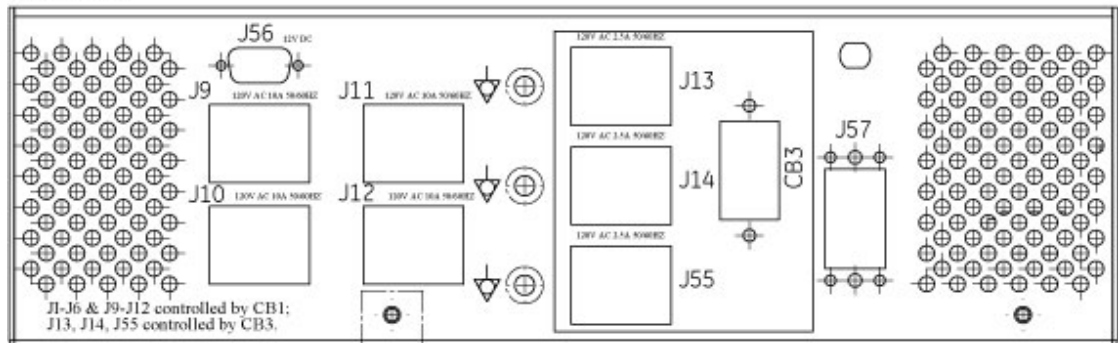

Figure D-9 AC Box J1 and J12
- 8.) Attach the AC power cable from the splitter to the J1 of the console AC Box. See Figure D-9. Connect the remote power cord to J12.